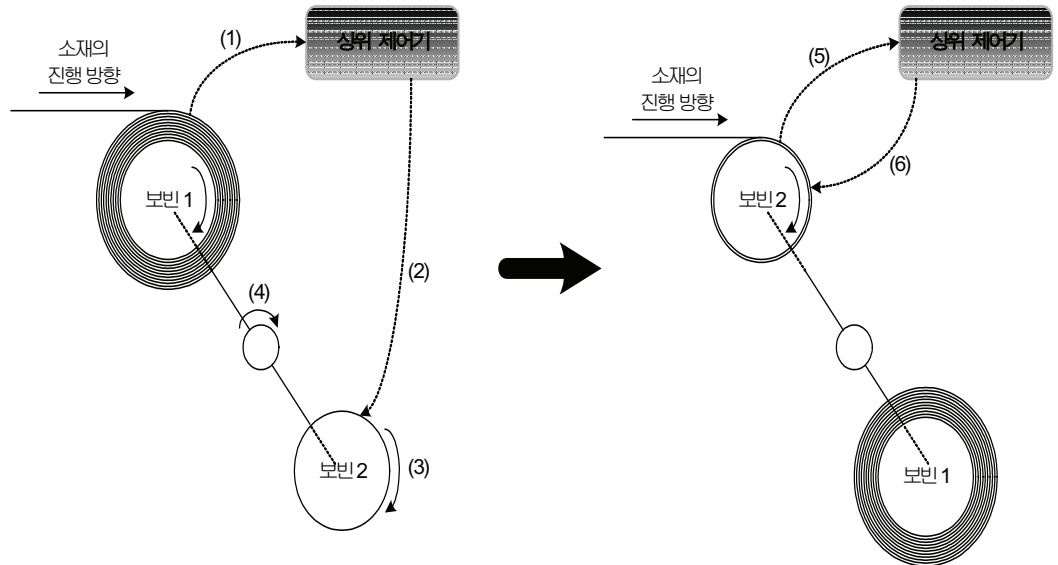

Figure 1.6.2 Conceptual diagram of splicing
If APP-54 (Fixed PID En) is selected as 'No,' which is factory setting value, the PID output[%], which is the output of the Web PID controller is always proportionate to the main speed[%] as seen in the Figure 1.6.2. That means, it maintains the ratio which PID output[%] takes up in the main speed. If the main speed [%] is decreased, the PID output [%] decreases by being proportionate to it, and if the main speed [%] increases, the PID output [%] increases in proportionate to it.
Usually the splicing system of the winder is composed as the Figure 1.6.2. The motion sequency is explained with the Figure 1.6.2.
The bobbin 1 sends the signal which indicates it is almost full to the upper controller. (Figure 1.6.2 (1))
The upper controller sends 'On' signal to the relevant multiple function input which is set up as '57:Web Splice' of the inverter controlling bobbin 2 which is currently empty. (Figure 1.6.2 (2))
The inverter starts to run the empty bobbin 2 with the command value combining main speed command[%] and APP-93 (Splice Level) as seen in the formula 1.6.6 – 1.6.8 while the output of Web PID controller is blocked. (Figure 1.6.2 (3))
The axis replacing bobbin rotates at 180 degree to replace the position of bobbin 1 and bobbin 2. (Figure 1.6.2 (4))
Send signal it is changed to bobbin 2 to the Upper controller. (Figure 1.6.2 (5))
The upper controller sends OFF signal to relevant multiple function input set as '57: Web Splice' of inverter which controls the bobbin 2 to stop the splicing motion. Now, the Web PID controller is operating again, and the diameter is being calculated again, the inverter's output frequency is decided by the formula 1.6.5. (Figure 1.6.2 (6))